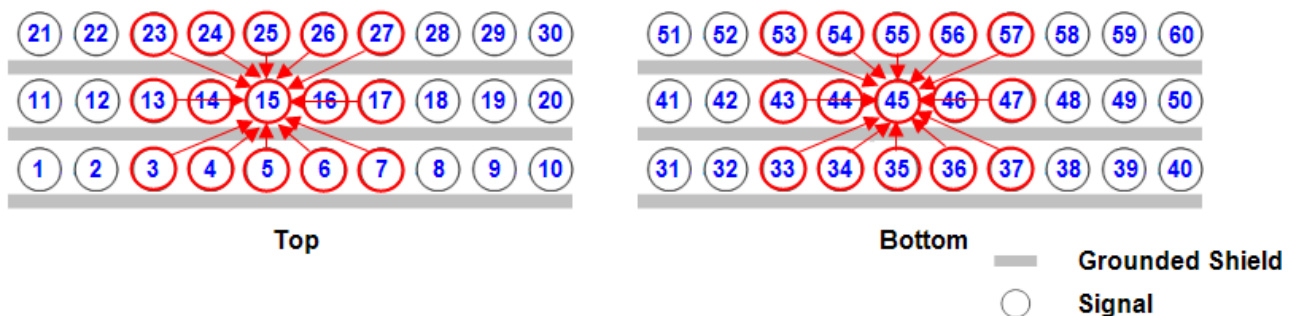
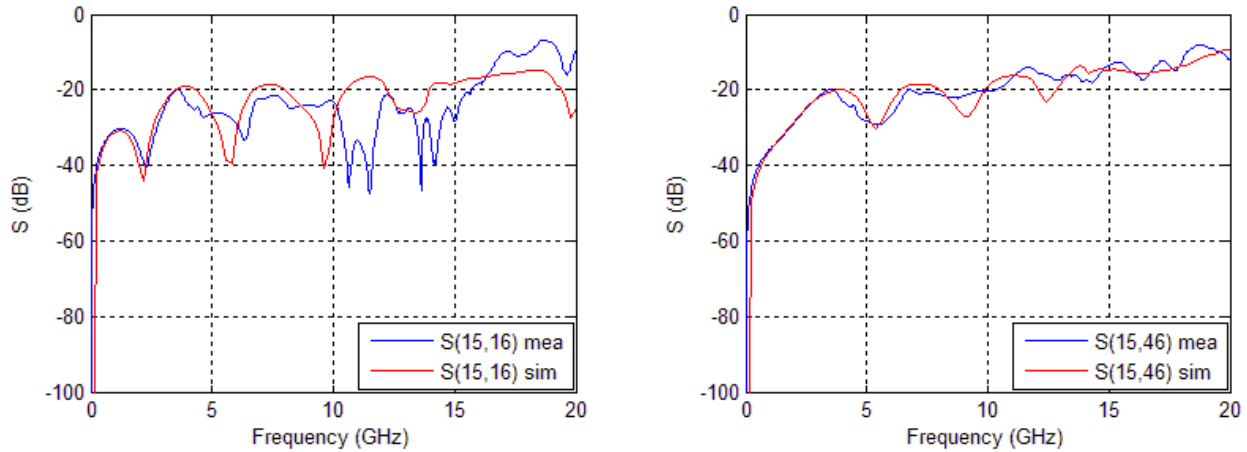

Figure 111 Single-ended NEXT and FEXT for center port 15 were measured for 14 surrounding neighbors
Figure 113 Measurement vs. simulation correlation of single-ended S parameters (for IT3-25mm) as shown in Figure 111
Figure 112 and Figure 113 show the measurement vs. simulation correlation of insertion loss (IL), return loss (RL) and single-ended S parameters (SDD for the center port 15 as shown in Figure 111). Good correlation was observed for all IL, RL, near-end cross-talk (NEXT), and far-end cross-talk (FEXT).
Single-ended NEXT and FEXT were measured for 14 surrounding neighbors of the center port (see Figure 111) and converted into time-domain data. Figure 114 and Figure 115 show the maximum single-ended NEXT and FEXT (in %) from each neighbor with step input at 120ps (20% to 80%) rise time with 2.625 GHz bandwidth. The center box corresponds to the absolute sum of NEXT and FEXT from all 14 surrounding ports.